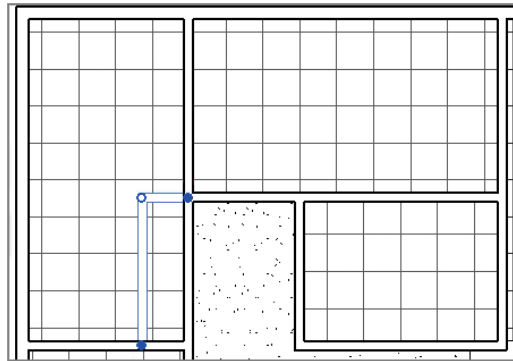

FIGURE 3.35 Creating a bulkhead
1. Place the walls that will act as the bulkhead, as shown in Figure 3.35. Be sure to set the Base Offset value in the Properties palette of the walls to 7'-9" (2.3 m) and the Unconnected Height value to 2'-3" (700 cm). This creates two walls above head height.